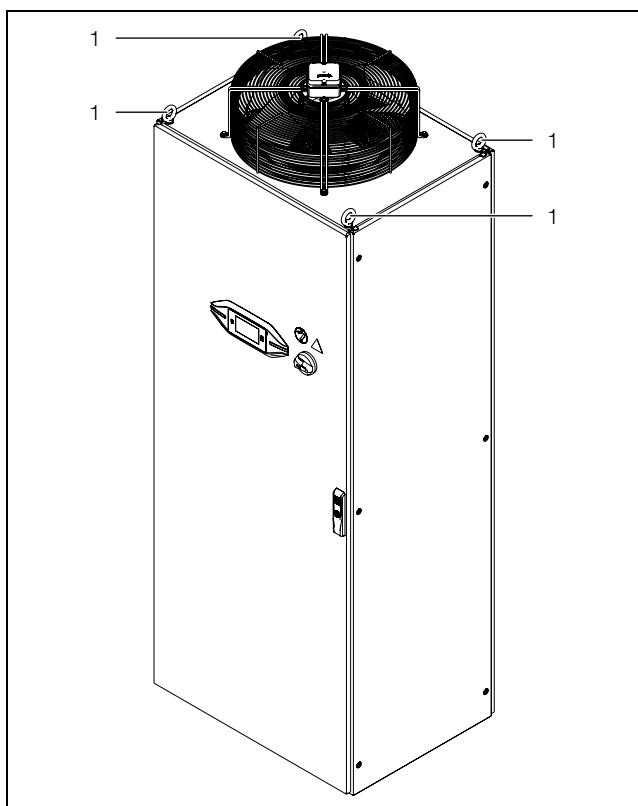

Fig. 6: Transport
- with lifting gear at the eyebolts provided for this purpose (fig. 6, item 1).